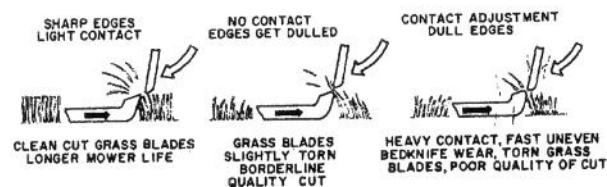

Figure 12
1. Bedknife/Reel Contact (Fig. 12) — There must be light contact between bedknife and reel to keep